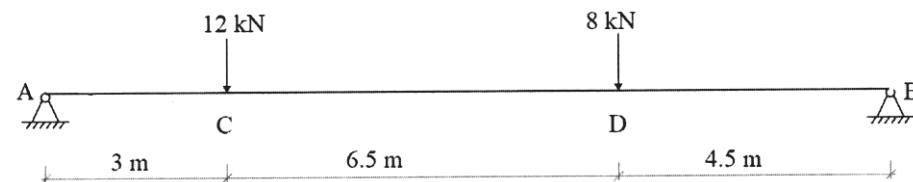

Fig. 2 (a)
- Q2) a) A horizontal steel girder having uniform cross section of 14 m long and is simply supported at its ends. It carries two concentrated loads as shown in Fig. 2 (a)